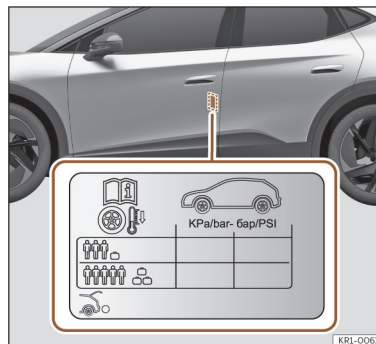

Fig. 201 Location of the tyre pressure sticker.
- Adjust tyre pressure to the load being carried by the vehicle >>> **Fig. 201**.
The tyre pressure values are shown on the sticker located on the rear frame of the front left door >>> **Fig. 201.**
The tyre pressure must be adjusted according to the load the vehicle is carrying. If the vehicle is going to be fully loaded, increase the tyre pressure to the maximum load value shown on the sticker >>> **Fig. 201.**
In the case of a minimised temporary spare wheel (125/70 R16 or 125/70 R18) inflate to a pressure of 4.2 bar as indicated on the tyre pressure label >>> **Fig. 201.**
- The driver is responsible for ensuring that all of the vehicle tyres are correctly inflated to the right pressure. The recommended tyre pressure is indicated on the label >>> **Fig. 201.**
- Tyre pressure should be as indicated on the label when the tyres are cold at all times >>> **Fig. 201.**